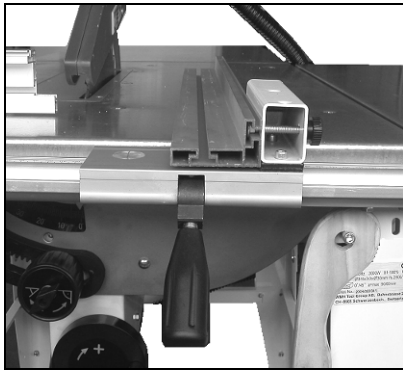

Fig 20
-The cutting of small workpieces (width less than 120mm) and tilted cuts shall only be performed with the rip fence profile placed flat (Fig 20).